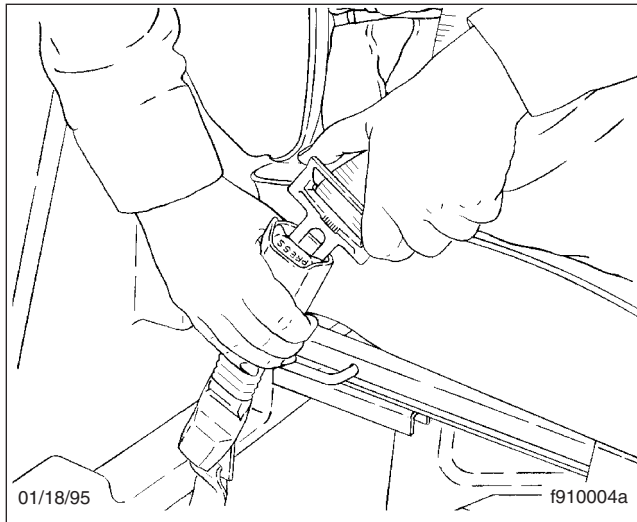

Fig. 5.8, Fastening the Three-Point Belt
2. Fasten the three-point seat belt by pushing the link into the buckle until it latches (Fig. 5.8). Give the belt a tug at the buckle. If the buckle unlatches, repeat this step. If the problem continues, replace the three-point seat belt.
2. Fasten the three-point seat belt by pushing the latch into the buckle. Listen for an audible click. See Fig. 5.8.